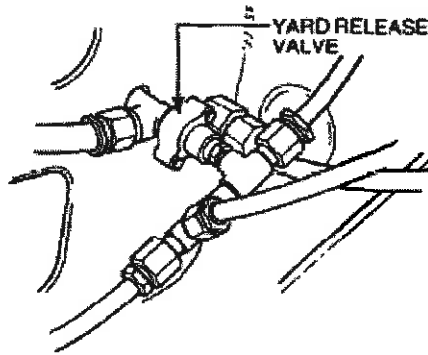

Figure 24 Yard Release Valve
- c. Tag and remove the air lines from the release valve (Figure 24).